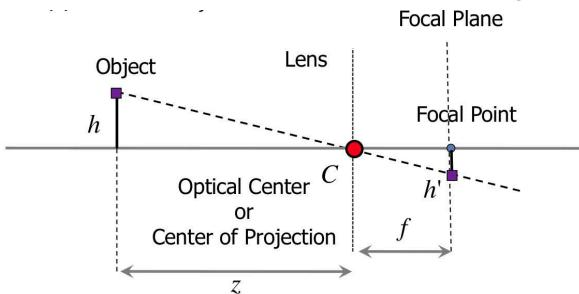
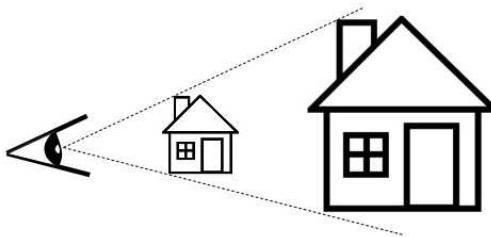

Figure 13.24. Pinhole camera approximation [\[38\]](#)
Figure 13.25. Scale ambiguity [\[40\]](#)
This last equation (1) can be approximated since usually $z \gg f$ such that we effectively arrive at the pin-hole approximation with: $e \approx f$ (see Figure 13.24)
This equation (2) and especially Figure 13.24 clearly show that since in every situation you only know H as well as x_{pix} and y_{pix} of the respective objects on the image plane, there is no way to determine the real position of the object, since everything can only be determined up to a scale (λ). Frankly speaking you only know the direction in which the object has to be but nothing more, which makes it a very difficult task to infer potential obstacles given the picture of a monocular camera only. This scale ambiguity is illustrated in Figure 13.25.
This information is used in the actual extrinsic calibration such that in Duckietown, due to the assumption that everything we see should in general be on the road, we can determine the full real world coordinates of every pixel, since we know the coordinate Z_w which uniquely defines the absolute scale and can therefore uniquely determine λ and H ! Intuitively this comes from the fact that we can just intersect the known ray direction (see Figure 13.24) with the known “ground plane”.